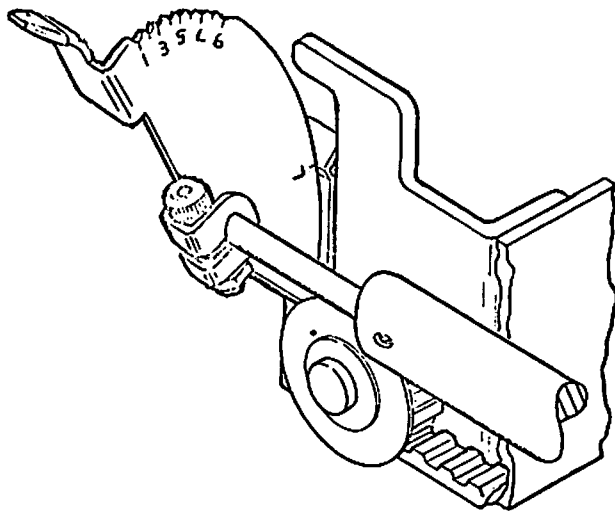

FIGURE 3-3 HEAD ADJUSTMENT ARM
To replace the Vertical Format Tape, lift the cover of the printer to gain access to the tape reader. Lift upper reader cover (Figure 3-3) and install tape, ensuring that the sprocket teeth protrude through the paper tape. Close reader cover.
- 1) Move Head Adjustment Arm to load (L) position (Figure 3-3).